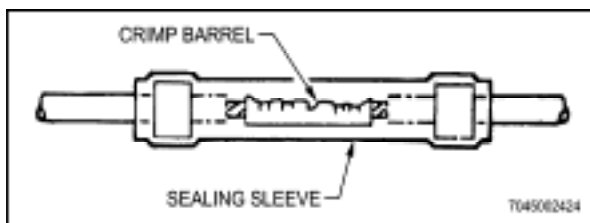

Figure 5-5 Sealing Sleeve Centred over Crimp Barrel
- m. Centre sealing sleeve over crimp barrel (Figure 5-5).